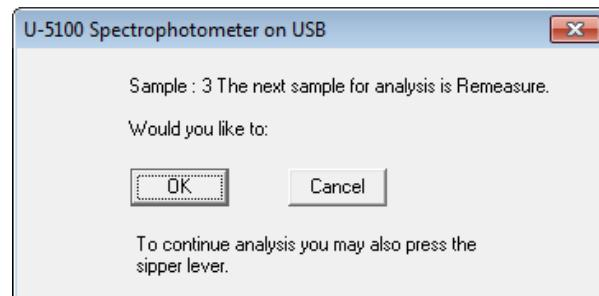

Fig. 7-7
When a message as shown in Fig. 7-7 appears, set a sample and press the sipping lever.
**NOTE:** When standard data has been clicked and then the Remeasure command has been selected from the Spectrophotometer menu or the **Remeasure (F8)** button has been clicked, the message shown in Fig. 7-7 will not appear. Instead, the "Waiting" message will appear. When the "Waiting" message appears, set a sample and press the sipping lever.